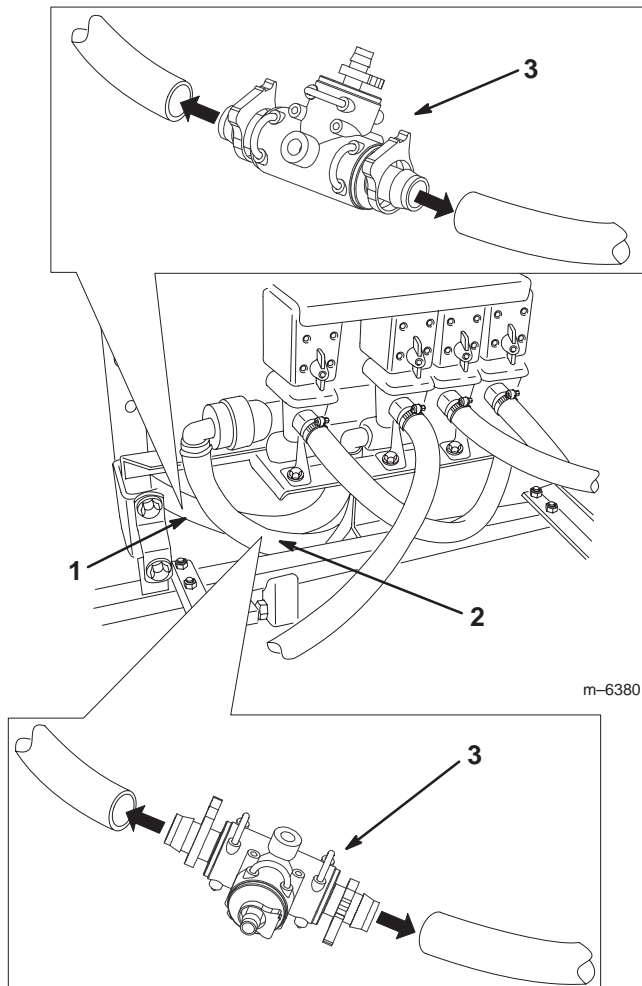

Figure 12
9. Cut the by-pass hose half way between the boom valves and the tank (Fig. 12).
10. Using liquid soap on the barbs, insert an S53 tee fitting assembly into the break and secure it using 2 large, plastic hose clamps (Fig. 12).
11. Cut the agitation supply hose in half (Fig. 12).
12. Using liquid soap on the barbs, insert an S53 tee fitting assembly into the break and secure it using 2 large, plastic hose clamps (Fig. 12).